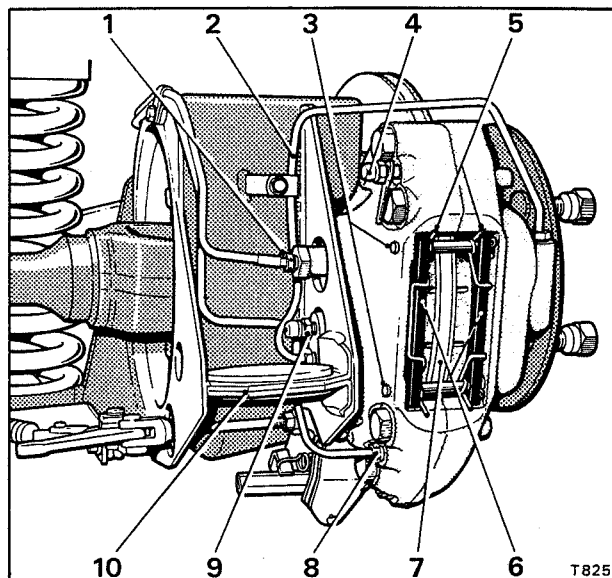

Fig. G35m Rear wheel brake caliper
4. Remove the spring clips from the two brake pad retaining pins (see Fig. G35m) and withdraw the pins. Collect the anti-rattle spring clip from the rear of each brake pad.
8. Fit the new pads by reversing the removal procedure. Ensure that the anti-rattle spring clips and pad retaining pin clips are correctly located (see Fig. G35m).